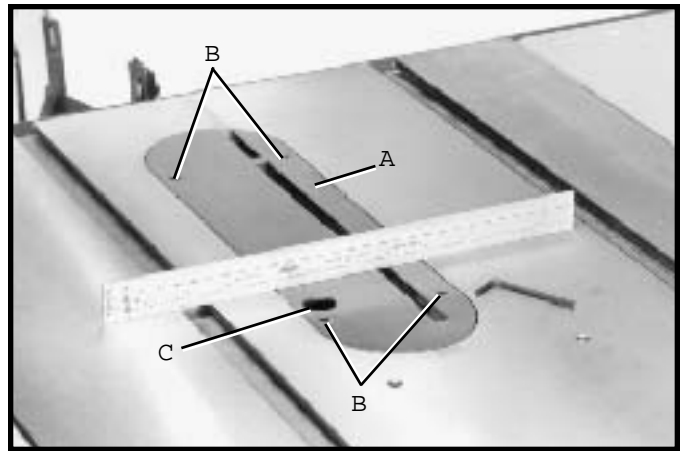

Fig. 87
Place a straight edge across the table at both ends of the table insert as shown in Fig. 87. The table insert (A) should always be level with the table. If an adjustment is necessary, turn the adjusting screws (B), as needed. Four adjusting screws (B) are supplied in the table insert. The table insert is equipped with a convenient finger hole (C) for easy removal.